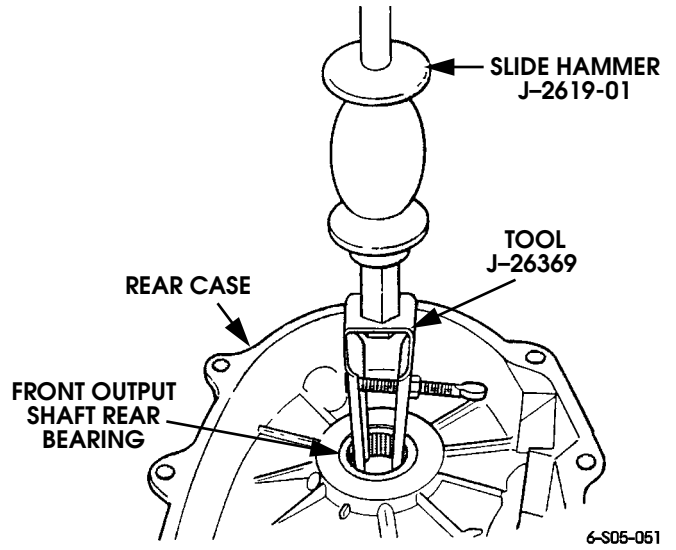

Figure 5-123: Front Output Shaft Rear Bearing Removal
- b. Pull bearing using slide hammer, adapter J-2619-01, and puller J-26369 (Figure 5-123).